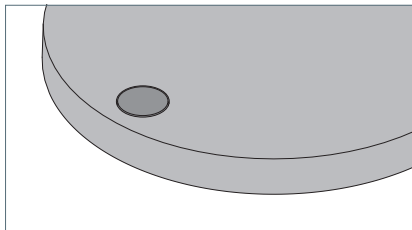

Fig. 3: Button.
- Briefly press the button, see Fig. 3.
- Press the button and keep it depressed, see Fig. 3.
- ▶ Press the button and keep it pressed for ten seconds, until the luminaire starts flashing at regular intervals, see Fig. 3.